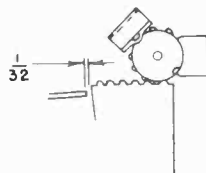

Fig. 7.
RECORD FEED—The outer and lower surface of the main cam (15) controls the record selection. Motion of the feed cam roller (36) about the cam groove causes the feed sector lever (19) which is engaged with the record feed pinion (20), to turn the eccentric (44) to the proper position for a record selection and to then return, allowing the record to drop over the spindle (3). The feed sector lever and record feed cam should mesh as shown in Fig. 7.